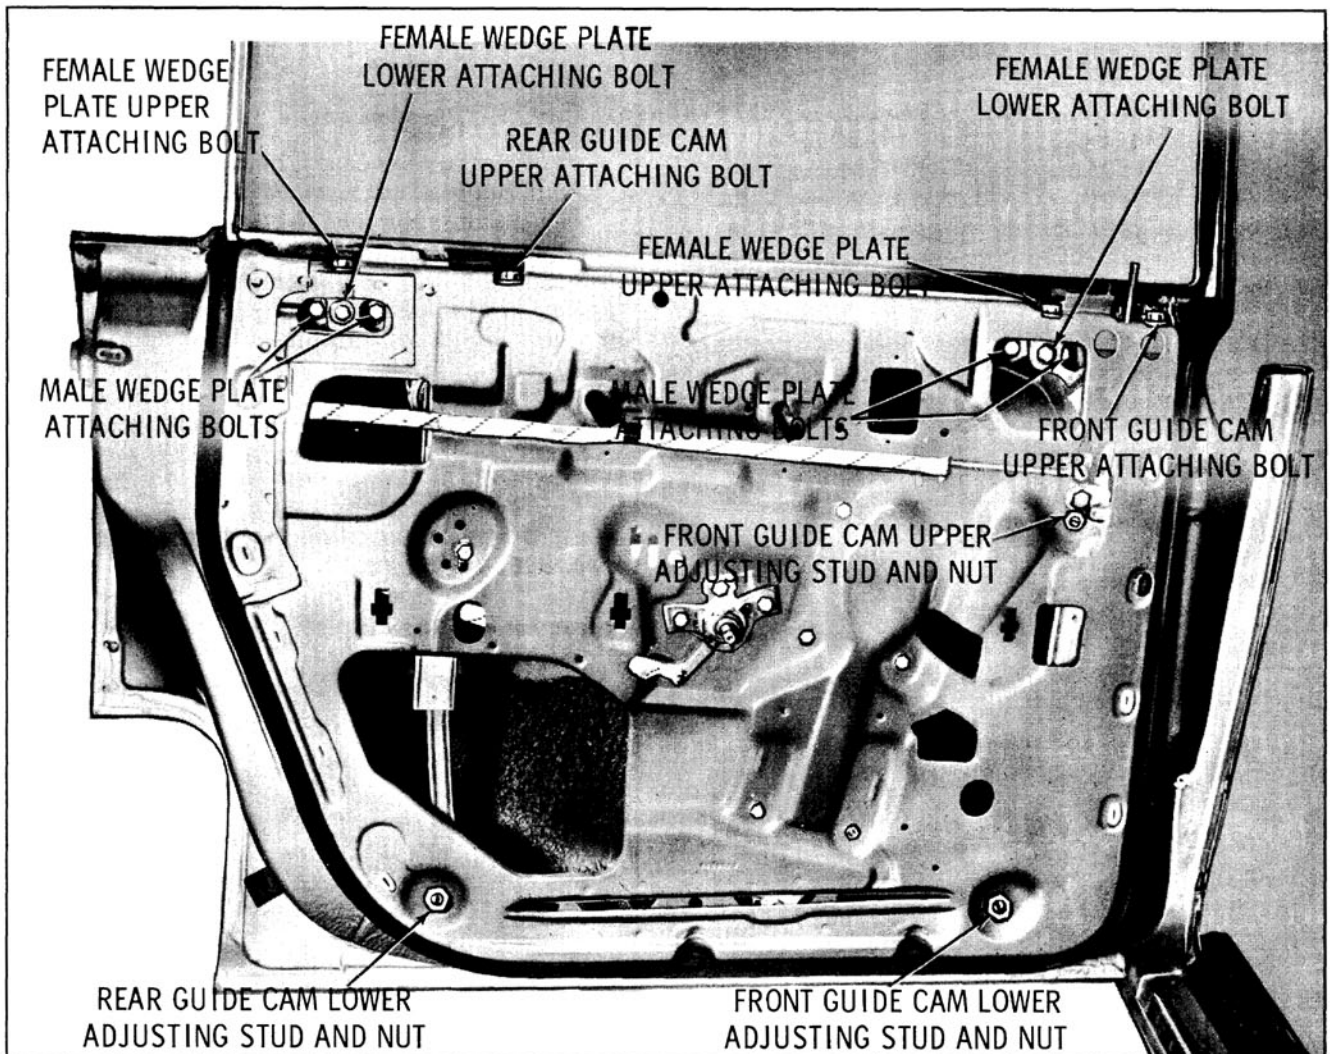
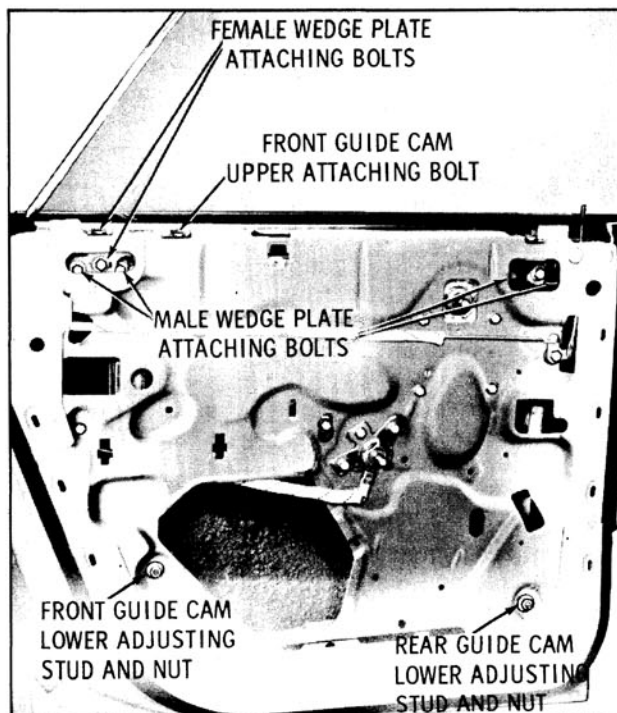

Fig. 16-65 Rear Door Hardware
Fig. 16-71 Rear Door Hardware
4. On 3829 and 39 styles equipped with electric window regulators, loosen rear guide cam upper attaching screw and bolt and remove lower adjusting stud and nut. This is necessary to move lower section of rear guide cam rearward far enough to permit removal of electric window regulator and motor assembly. Fig. 16-65 shows the rear guide cam attachments and is typical of rear guide cams equipped with power windows.
2. Through access holes in door inner panel, remove bolts securing rear door window front and rear male wedge plates to window lower sash channel and remove wedge plates. (Fig. 16-71)
- a. Loosen lower adjusting stud nut on both front and rear guide cams on 39 styles. (Fig. 16-71) Loosen lower adjusting stud nut on rear guide cam and upper and lower adjusting stud nut on front guide cam on 29 styles. (Fig. 16-65)
- (2) Loosen front female wedge plate upper attaching bolt. Loosen front guide cam upper attaching bolt on 29 styles. (Fig. 16-71)
NOTE: For rear guide cam attachment, refer to Fig. 16-65 (29 styles) or Fig. 16-71 (39 styles).
2. Remove rear guide cam upper attaching bolt and lower adjusting stud and nut. (Fig. 16-71)